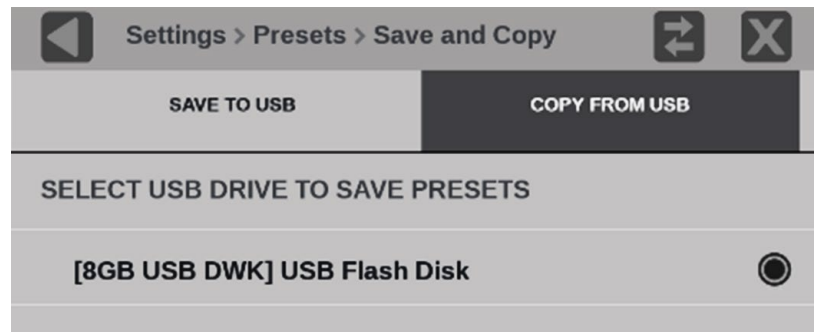

Figure 76: PRISM Settings in the Save and Copy USB Presets submenu with COPY FROM USB selected
4. Select **Save and Copy USB Presets** and then select **COPY FROM USB**. (See Figure 76.)